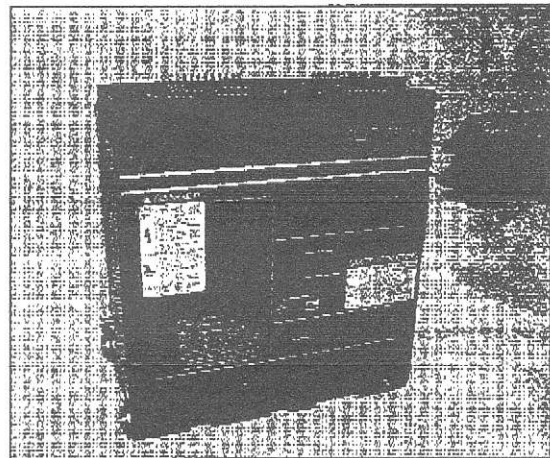

Fig. 65 Replace Front Cover
- 10) Replace the front cover (Fig. 65).